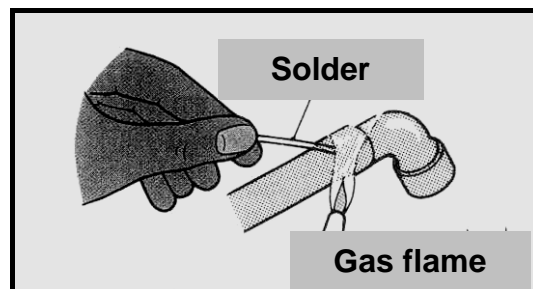

FIGURE 1.1
- D All the above-mentioned (1)
- 1.5 Thabo had to soft solder a bronze pipe fitting. What step of the soldering process is shown in FIGURE 1.1?